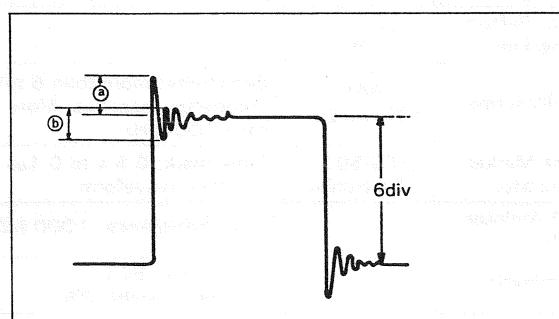

Fig. 7
3. Rotate SWEEP TIME/DIV control from  $2 \mu s$  to  $0.2 \mu s$ . Adjust TC704 (mid range) and VR703 (high range) for minimum overshoot (within 3%) and ringing (within 3%) at point  $\textcircled{a}$  and  $\textcircled{b}$  on waveform as shown in Fig.7.